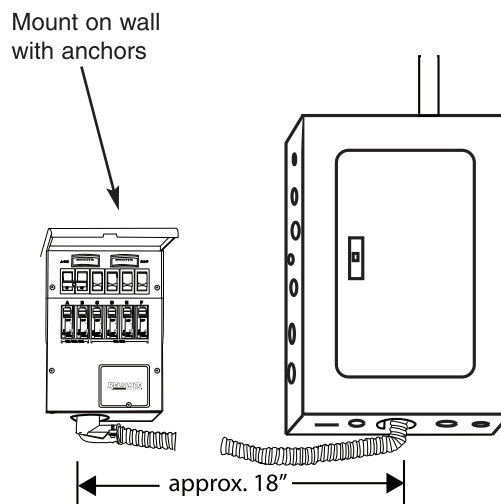

Figure 2
1. Position the transfer switch so that its bottom center is about 18 inches from the bottom center of your load center. The end of the flexible conduit whip should be lined up with a 3/4" knockout hole on the bottom of your load center (Figure 2).